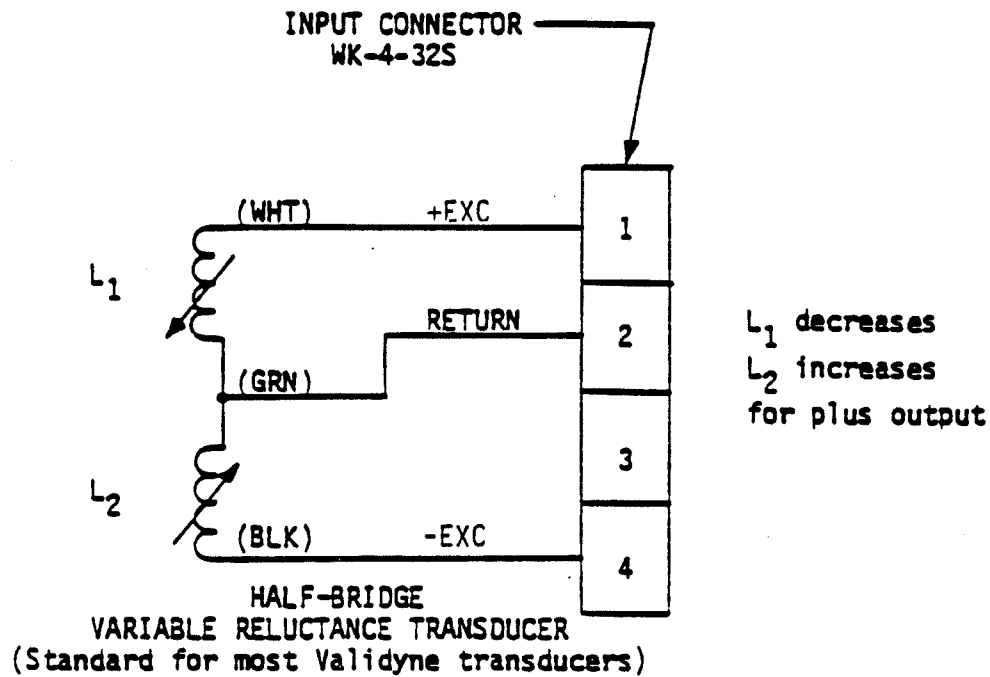

Figure 3-1. Transducer Connections for Two-Arm Operation.
Figures 3-1 through 3-3 describe the different methods of connecting the variable reluctance, strain gage, LVDT/RVDT and potentiometer transducers to the MC1 input connector.
A. Connect transducer as shown in Figure 3-1. Position jumper E1 (2-ARM/4-ARM jumper) to the 2-ARM position and jumper E3 (VAR REL. STR. GAGE/LVDT INPUT jumper) to the A position.